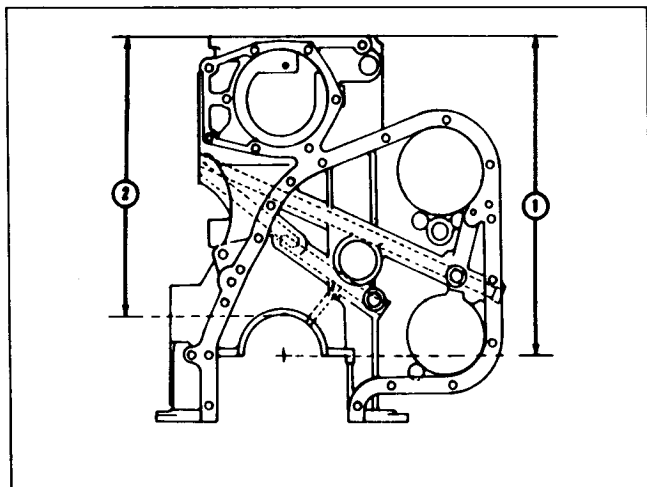

Fig. 1-5, (N10181). Cylinder block height check location
3. Check distance from centerline of main bearing bore (1, Fig. 1-5) to top of block. See Table 1-1 (4).
- b. An alternate method is to check distance from installed main bearing bore alignment bar to top surface of block (2, Fig. 1-5).